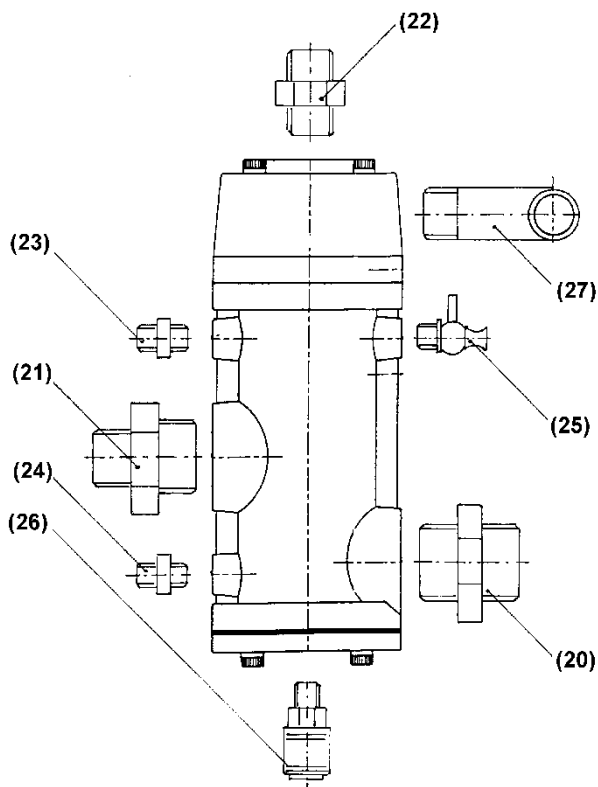
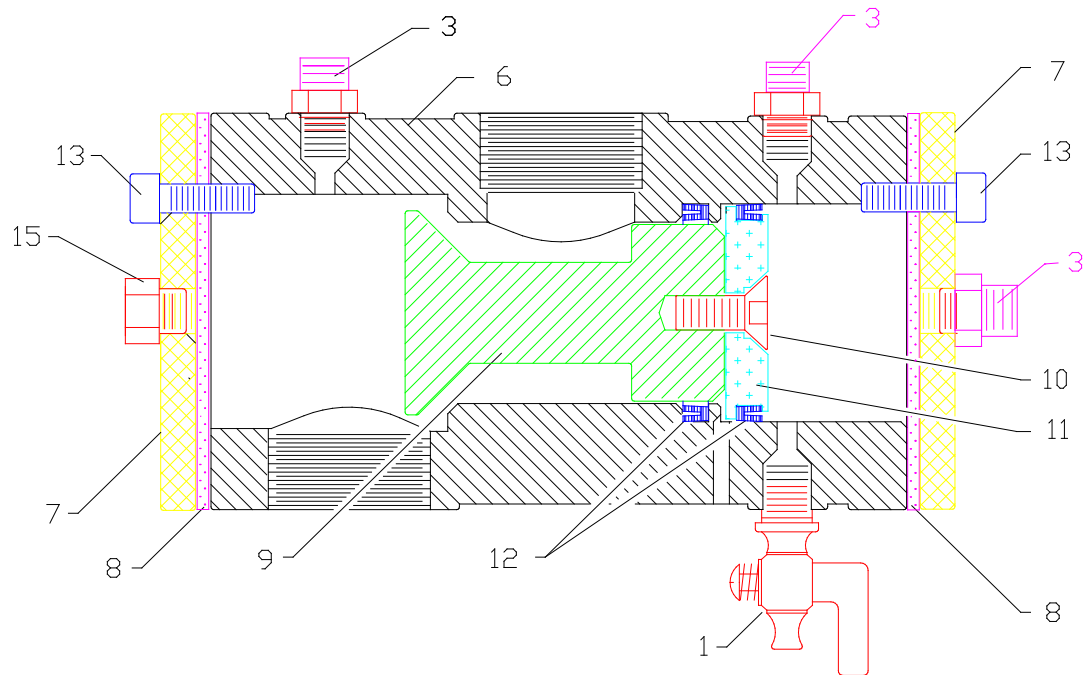
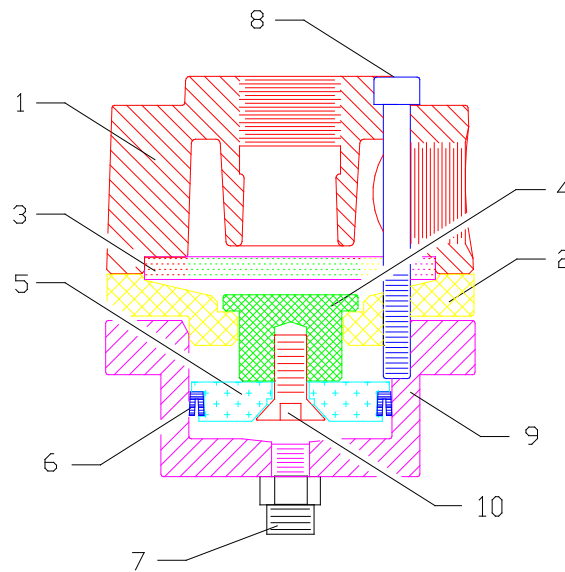

Figure 1: RMS 2000 with fittings.
Figure 3: Replacement parts RMS 1500.
Figure 4: Replacement parts RMS 500
When the blast machine is connected to an air supply line, compressed air is guided to the deadman handle through the brown remote control hose connected to fitting 24 in figure 1. When the deadman handle is depressed, the air is guided back to the remote control valve through the yellow remote control hose (fitting 24 in figure 1), and the inlet piston (No. 9, figure 3) is moved downward, so that compressed air is allowed to enter the pot. The same time the diaphragm piston (No. 4, figure 4) is pressed against the diaphragm (No. 3, figure 4) and seals the outlet port of the pot. The blast process starts. When the deadman handle is released, the control air is exhausted through the yellow remote control hose and the deadman handle. The inlet piston (No. 9, figure 3) is forced upward and the inlet port of the pot is sealed. The diaphragm (No. 3, figure 4) is opened through the air pressure of the pot and the pot is depressurized.
The diaphragm (item 3, figure 4) of the outlet valve has to be checked for wear every **6 months** or **300 working hours**. The outlet valve has to be disassembled.